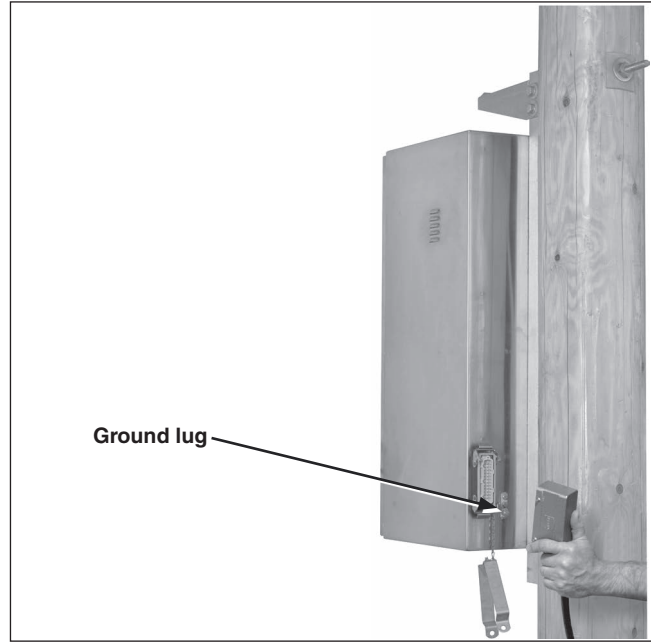

Figure 6. The enclosure ground lug is on the pole side.
- STEP 4.** Ground the enclosure by solidly connecting one No. 6AWG wire (or wires of equivalent cross-sectional area) to the ground lug on the back of the enclosure. See Figure 6. Solidly connect the other end of the enclosure ground wire to the switch ground wire(s).